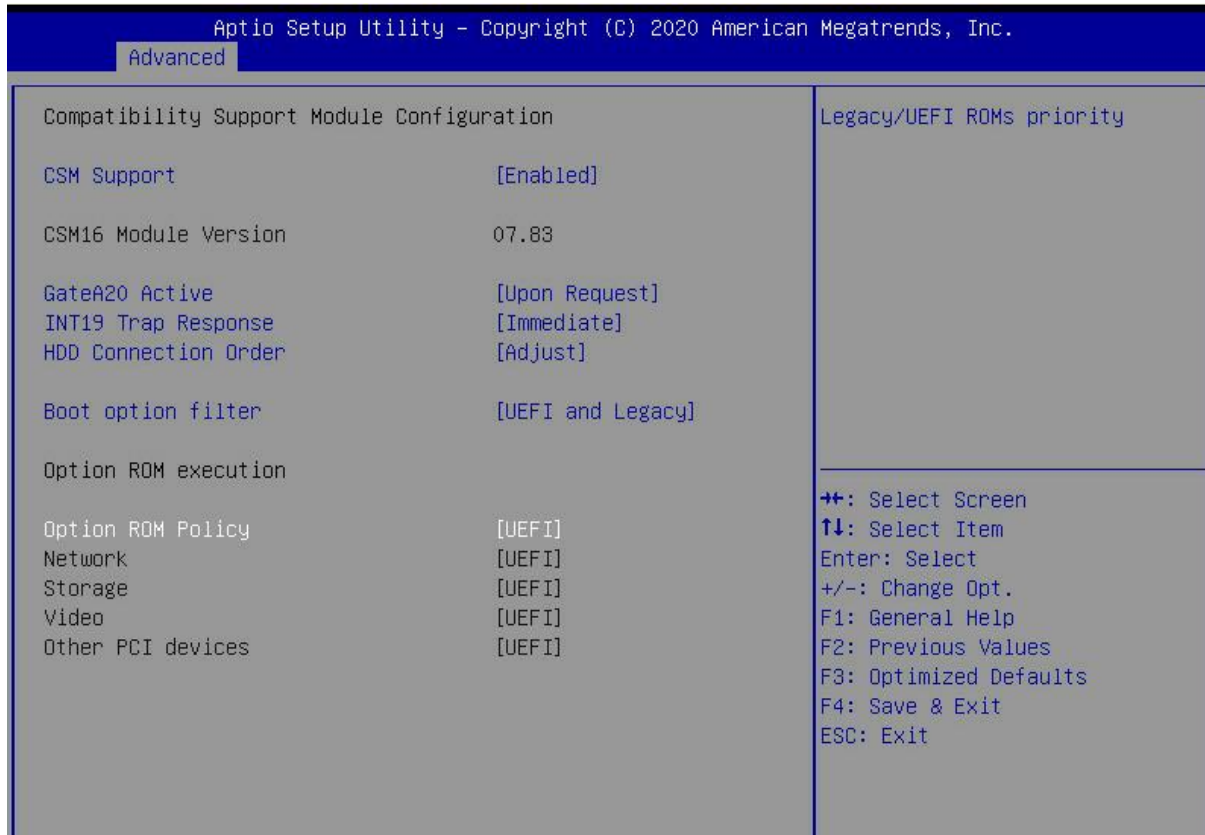

Figure 6-2
3. Make sure that Storage and Video in CSM Configuration are in UEFI mode, as shown in Figure 6-2, set Storage and Video to UEFI mode